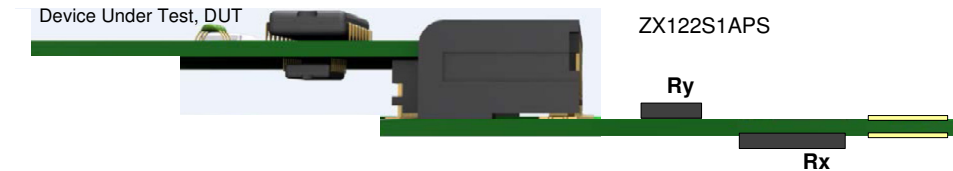

Figure 4 – Typical application - Rx, Ry : Current sense resistors
- 3- Rotate the module to horizontal position, see figure 4